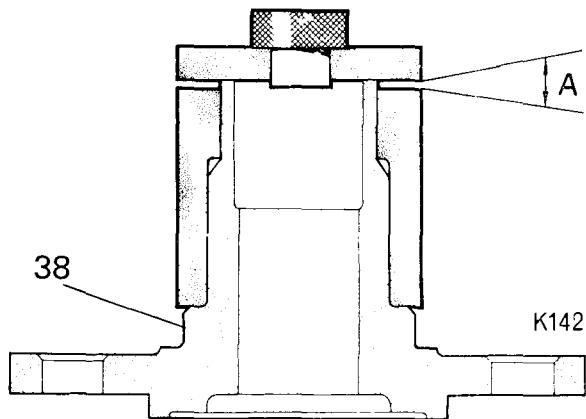
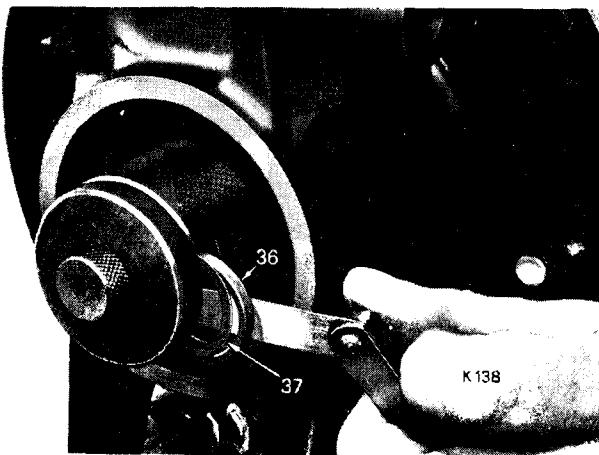

Fig. 69. Sectioned view of hub showing special tool fitted
Fig. 70. Selecting spacer and shims.
3. With a feeler gauge measure the clearance "A" Fig. 69.
4. Fit gauge S 325-1 as shown on Fig. 70 with slot uppermost.
5. Attach the gauge plate S 325-3 to the gauge body (Fig. 70) and whilst lightly tightening the thumb screw, rotate the gauge clockwise to allow the bearings to track correctly. **Do not** pre-load the bearings by **over-tightening** the thumb screw.
6. Place the pre-determined feeler gauge size achieved at clearance "A" (Fig. 69), into the slot in the gauge, together with one of the five available spacers (listed on page 3-126) and two shims if necessary, which collectively will tightly fill the gauge slot Fig. 70.